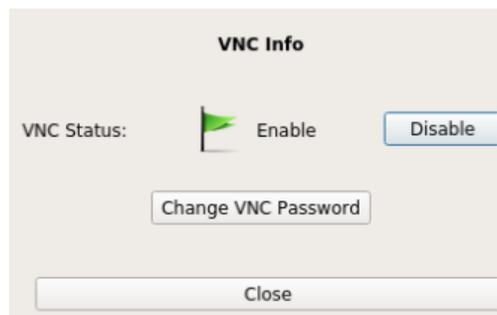

Figure 52: VNC Server Enabled
4. To proceed, click **Yes**: The VNC server is enabled, and you can connect to the analyzer via the VNC interface. You can also disable the connection (see Figure 52).